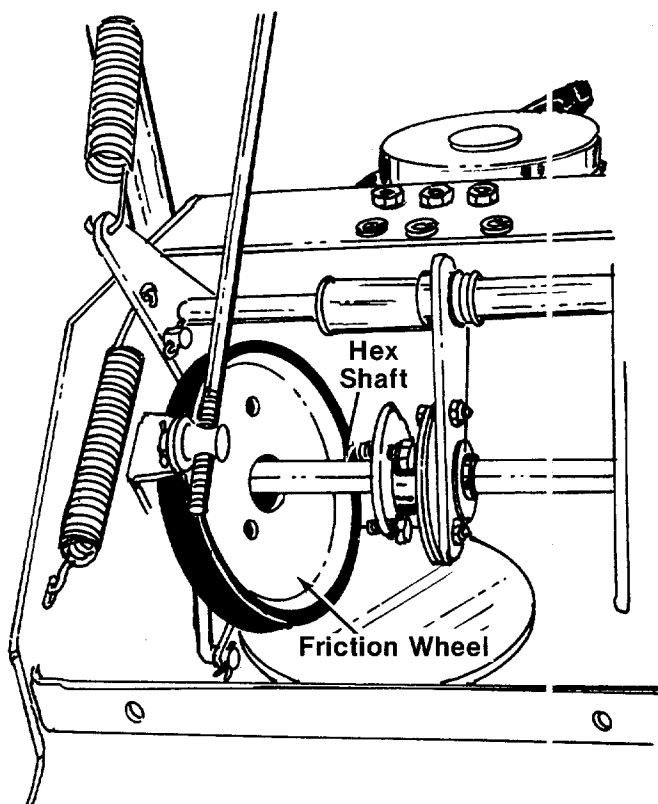

FIGURE 34.
5. Slide the friction wheel off the end of the hex shaft. See figure 34.